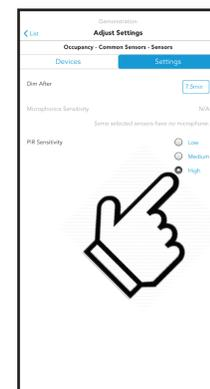

Figure 49: PIR Sensitivity
3. Select **Low**, **Medium**, or **High** sensitivity (Figure 49).